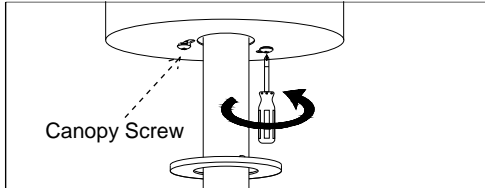

Fig. 11
Step 3. As shown in Fig. 11, tighten canopy screws to secure canopy (C).